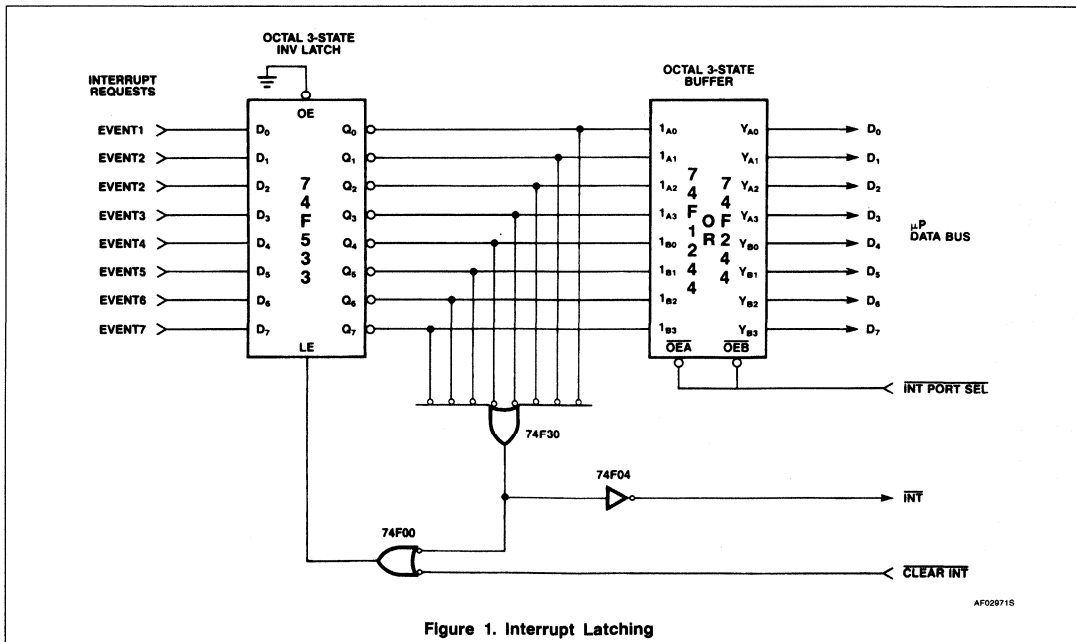

Figure 1. Interrupt Latching
Figure 1 shows a circuit that captures asynchronous events and generates an interrupt to the microprocessor. The 74F533 inverting octal latch is used to "freeze" the state of the interrupt inputs. This is necessary to catch short interrupt request pulses. When all interrupt requests are inactive, the latch enable (LE) input of the 74F533 is asserted. When any request is asserted, the interrupt signal to the microprocessor (INT) is asserted and the latch is disabled. Thus, the state of the interrupt inputs is latched.